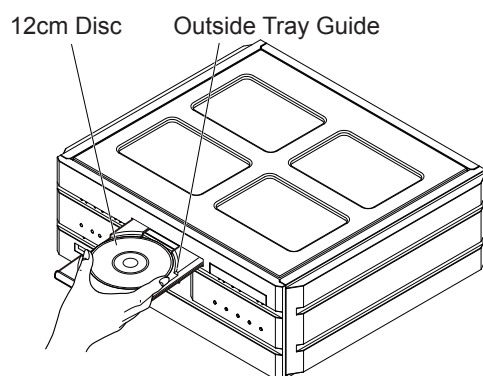
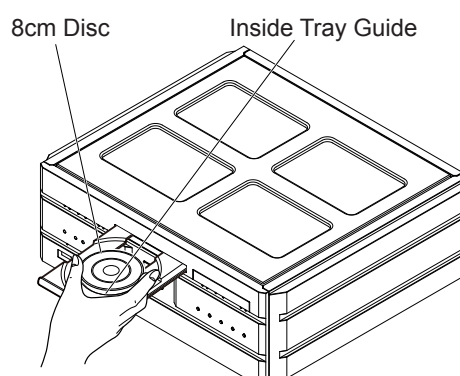

Figure 1
Figure 2
- Put the disc on the tray with adapting outside tray guide for 12 cm disc (Figure1), and adapting inside tray guide for 8 cm disc (Figure2).